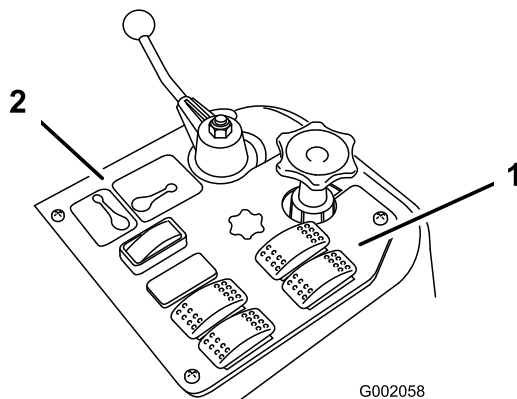
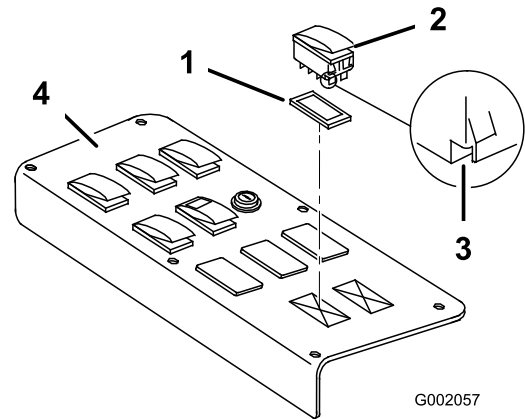

Figure 28
Figure 29
2. Lift and remove the 2 plugs from the spray control panel on the vehicle, and install the 2 rocker switches provided in their place (Refer to Figure 28 for the Multi Pro 1200 and Figure 29 for the Multi Pro 1250).
Note: Ensure that the orientation of the switches matches what is shown in Figure 29, with the notch pointing toward the rear of the vehicle.